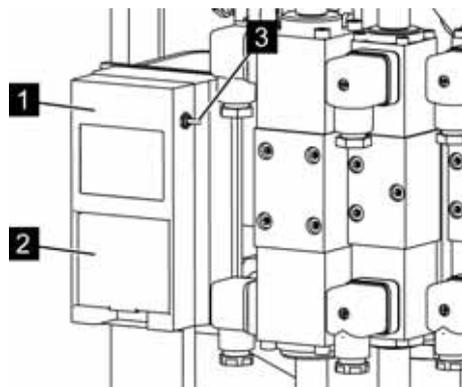

Fig. 81: Charging station
4. → Remove the charged battery (Fig. 81/2) from the charging station (Fig. 81/1) and insert the empty battery. Make sure that the toggle switch (Fig. 81/3) is in the 'on' position.
In case of longer downtime, switch the charging device (toggle switch Fig. 81/3) to the 'off' position so that the machine's main battery will not discharge.